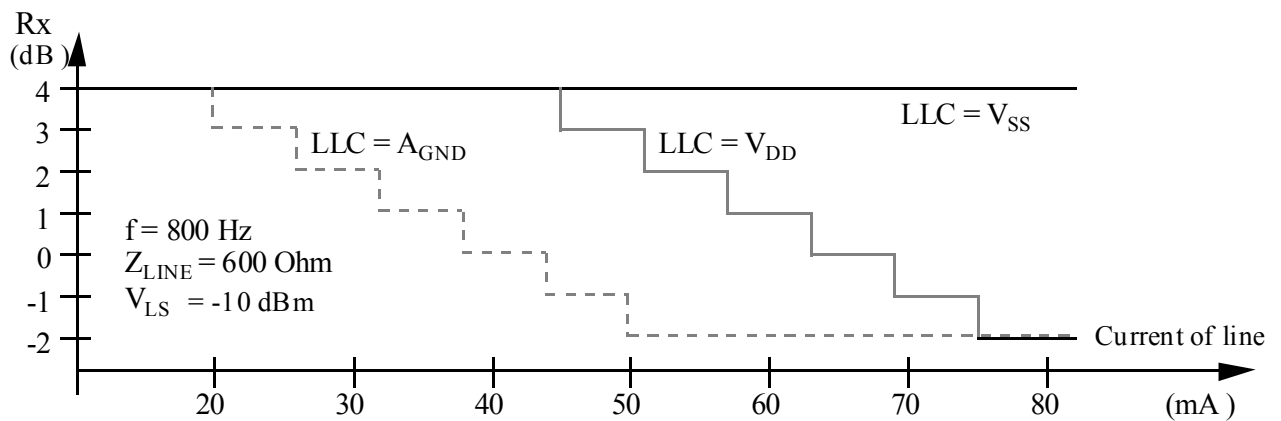

Figure 6 – Soft limitation and distortion by receipt
Soft limitation circuit adjust voltage at receipt output (RO) no more than  $1V_{PEAK}$  (see figure 6) It prevents from sharp distortion and acoustic impact.